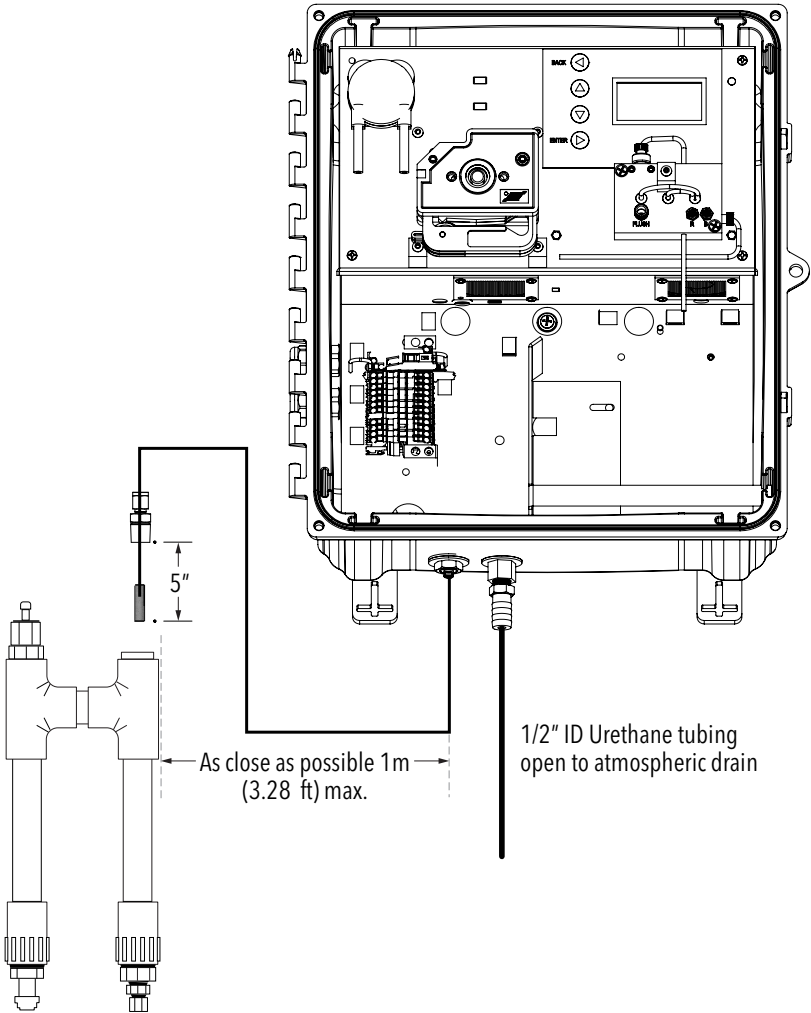

Figure 1: WTW 3017M DPD Chlorine Analyzer and Sample Inlet Device shown in the recommended installation configuration.
3. Install the Sample Inlet Device in its designated location (if applicable). Below and to the left of the analyzer is an ideal position. See **Figure 1**.